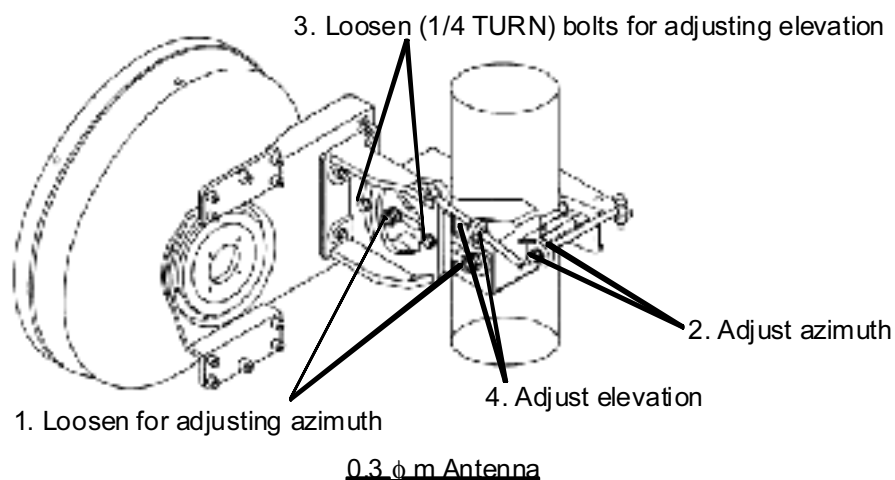

Figure 11-4 Location of Adjusting Nuts and Bolts (RFS SB1 Type Bracket)
Note The fixed bolts and nuts to be used for the antenna orientation differ with antenna bracket types, refer to antenna bracket shown in Figure 11-4 to Figure 11-8.
- B-1 Loosen nuts (1 in Figure 11-4),
- B-2 Adjust the azimuth angle by adjusting the nuts (2 in Figure 11-4),
- B-4 Loosen bolt(s) (3 in Figure 11-4),
- B-5 Adjust the elevation angle by adjusting the nuts (4 in Figure 11-4),